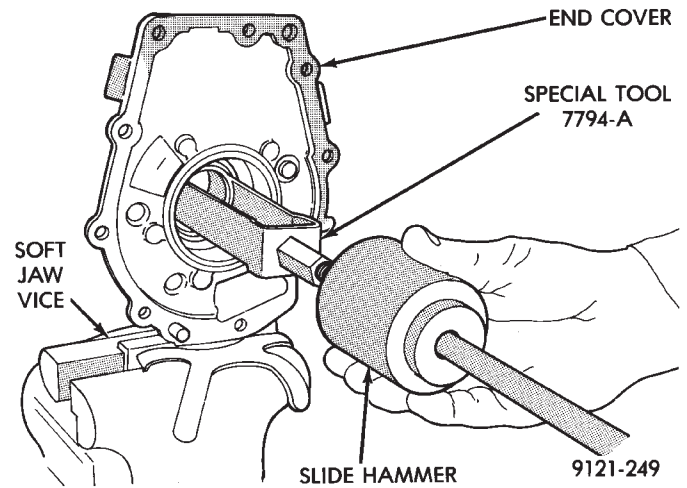

Fig. 4 Seal Removal
- (4) Use special tool No. 7794-A to remove seal (Fig. 4).